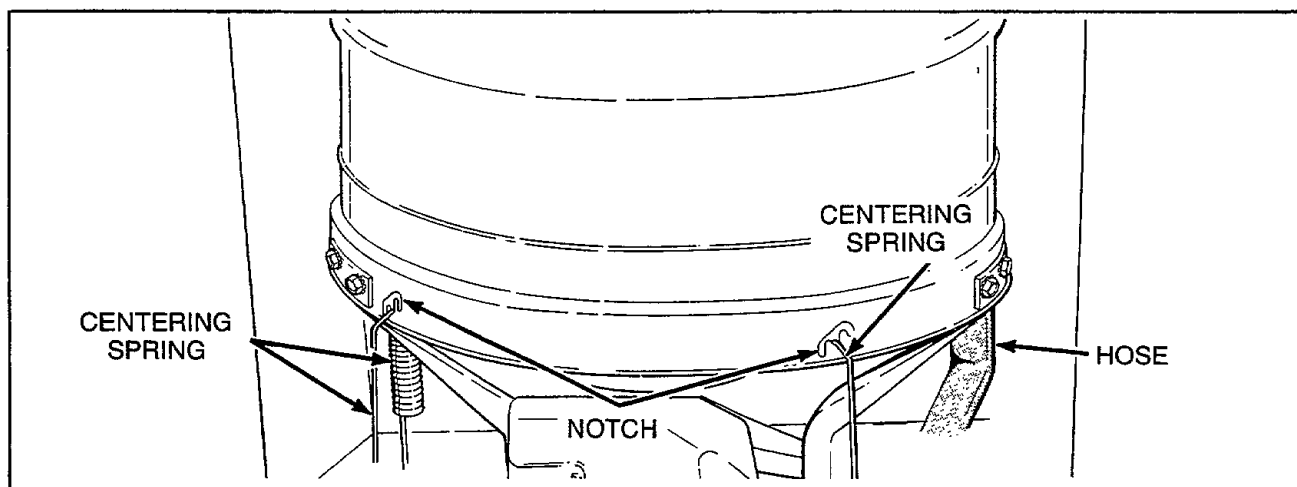

Figure 25
- n. Using the No. 229P4 Spring Hook Tool, unhook the five centering springs from lower edge of outer tub, *Figure 25*.
- i. Using the No. 229P4 Spring Hook Tool, unhook the five centering springs from the lower edge of outer tub, *Figure 25*.